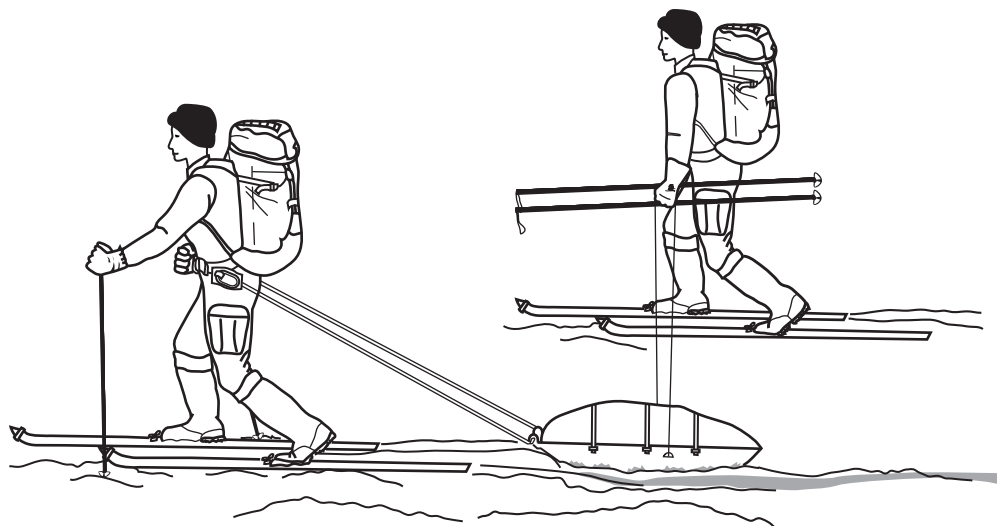

Figure 8-5. Traversing a Moderate Slope.
- Attach a trace to the sled when traversing a moderate slope. A Marine uphill from the sled attaches the trace from themselves to both sides of the sled to maintain balance and prevent the sled from sliding out, as shown in figure 8-5.